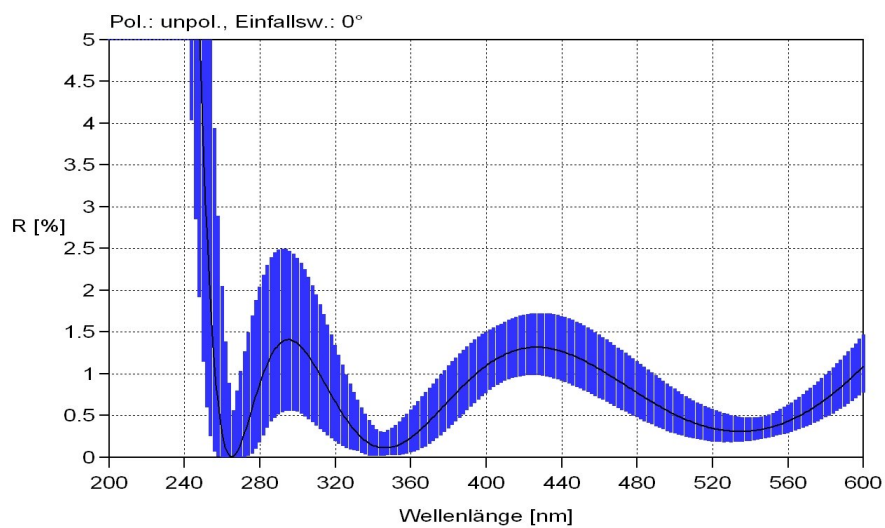

Figure 2.16: AR-coating of Sheetopectics 1108516 for YAG wavelengths
- 1108516 made with fused silica lenses with a triple center anti-reflection YAG-coating suitable for 266, 355 and 532nm. This coating is also suitable for all wavelengths between 266 and 532nm. See figure 2.16 for a detailed performance of this coating.